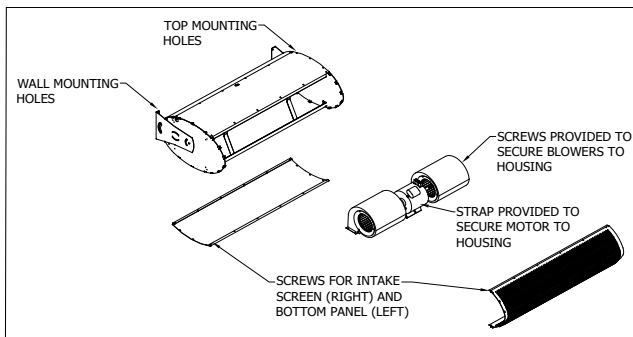

FIG. 2
3. All 3 phase motors are bi-directional, which means they can rotate in either direction. Follow directional arrows on the blower wheel housings for proper rotation. If the motor is rotating incorrectly, switch two of the 3 phase power or motor leads and the motor will rotate the opposite direction. Make sure all motors are turning in the same and proper direction. (FIG. 2)